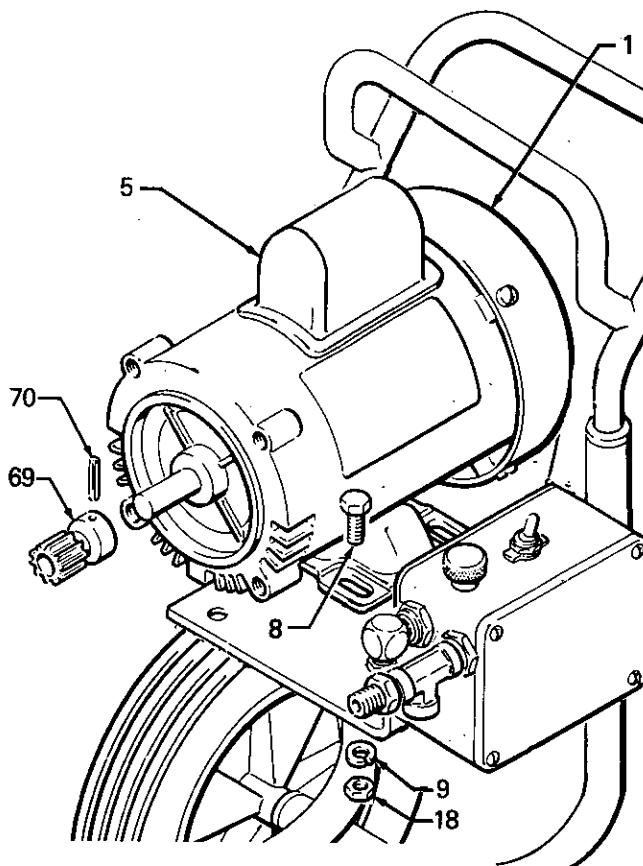

Fig 7
Drive out the pin (70) and remove the gear (69). See Fig 7.
Unplug the sprayer. Remove the cover of the capacitor (5). See Fig 7. Remove the flag connectors from the old capacitor. Connect the flag connectors of the new capacitor and replace the cover.
Unscrew the nuts on both ends of the conduit (76) from the connectors. Remove the screws (8), nuts (18) and lockwashers (9). See Fig 7. Remove the motor (1) from the frame while carefully guiding the wires through the connector in the control box. Remove the conduit (76) from the wires.